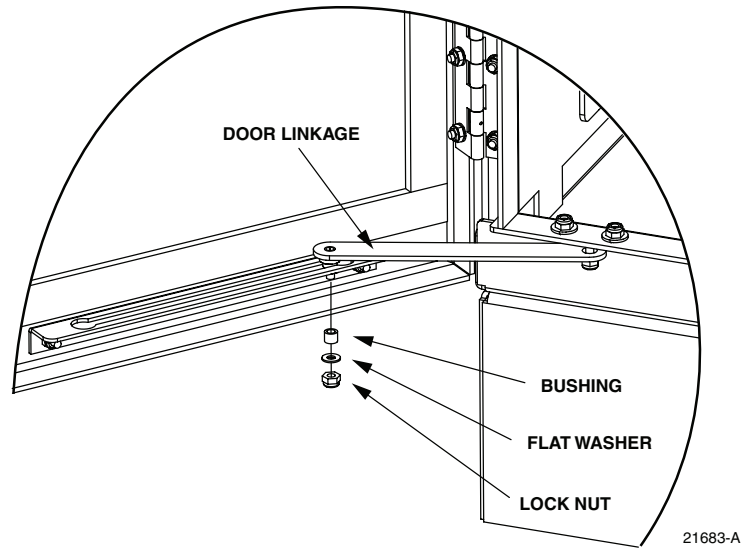

Figure 27. Door Linkage Hardware
3. Use a 3/8-inch nut driver and wrench to remove the locking nut, brass bushing, and capscrew that secures the door linkage to the door bracket as shown in Figure 27. Save the nut, bushing, and capscrew for reuse.